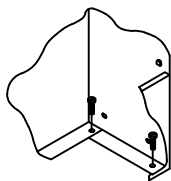

FIGURE 7
7. Anchor all units to the floor in the desired location. Use a 3/16" diameter anchoring device compatible with the floor construction and fasten through the 4 holes in the base of the unit. (Figure 7)